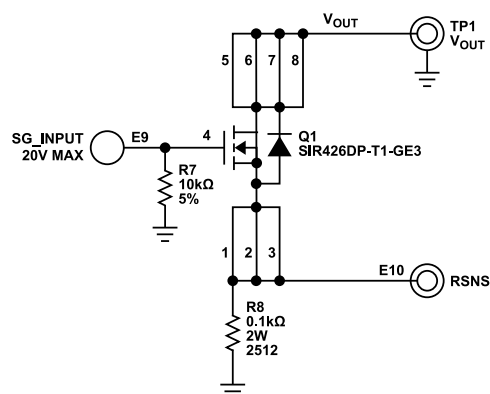
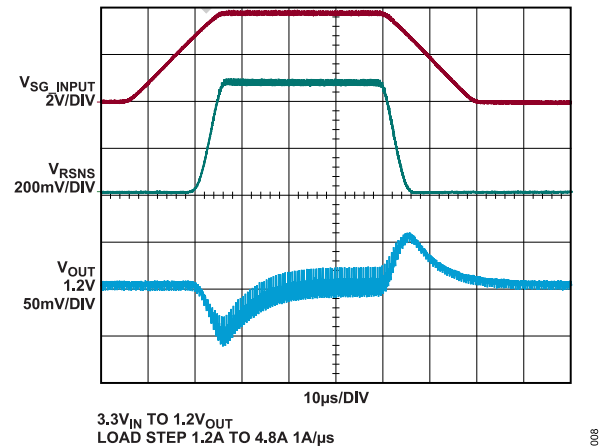

Figure 6. Optional Transient Response Circuit
Figure 9. Load Transient Response Forced Continuous Mode
14. Measure the RSNS voltage to observe the current, $V_{RSNS}/100$ m Ω . Adjust the amplitude of the pulse to provide the required transient. Adjust the rising and falling edge of the pulse to provide the required ramp rate. For more details, see Figure 9 and the optional transient response circuit shown in Figure 6.